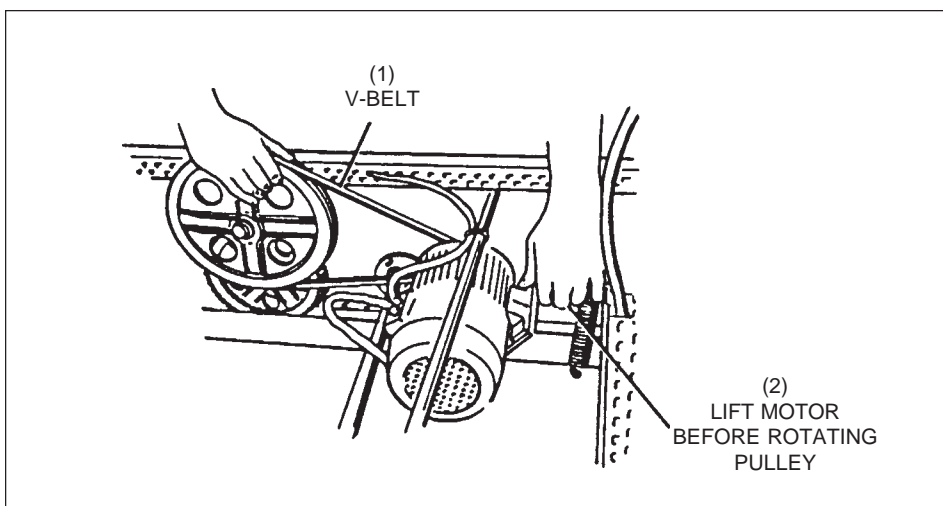

Figure 8-1. Manually Raising or Lowering the Setting Table.
3. *Firmly grip* the top of the large table V-belt pulley. Refer to *Figure 8-1*.
3. Manually lower the setting table assembly so it is supported by the spacers. Refer to *Figures 8-1* and *8-2*.